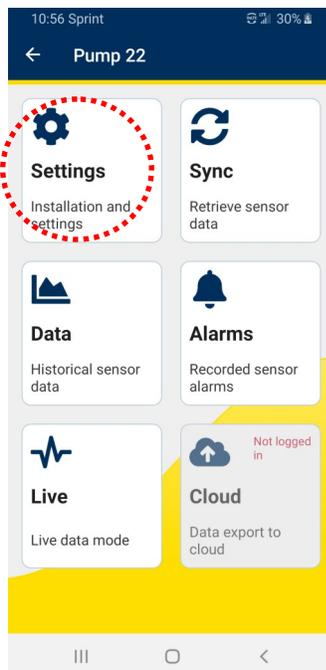

Figure 38
2. Select **Settings** (see figure 38).